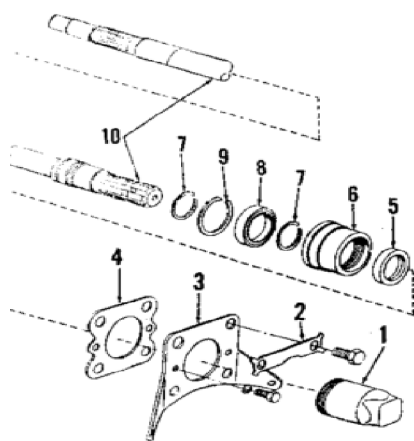

Fig 365-Exploded mening van model 4000 inde - pendent type PTO uitgangsas assemblage. Front
--Fig. 365). Unbolt and remove the retainer plate, pull out the output shaft and bearing assembly from the rear housing as outlined in paragraph 334, refer to exploded view in Fig. 365 and proceed as follows:
1:16. OVERHAUL PTO OUTPUT SHAFT. With the shaft assembly removed as outlined in paragraph 334, refer to exploded view in Fig. 365 and proceed as follows: